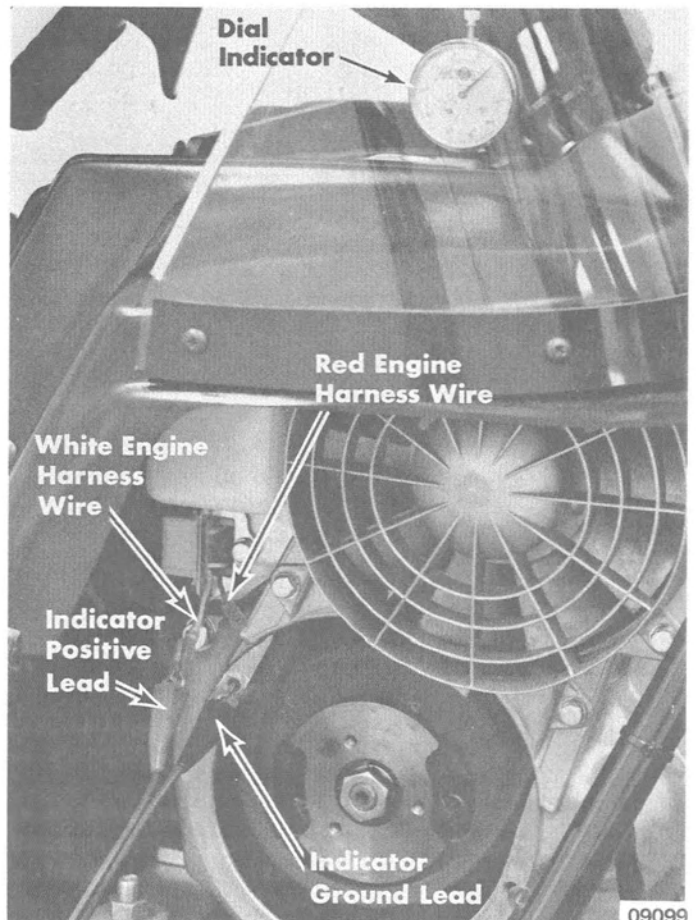

Figure 4. Timing Adjustment
6. Connect suitable meter, buzzer or light to engine ground and white engine harness wire which was disconnected from No. 1 (white) secondary ignition coil wire. (Figure 4)
11. Connect suitable meter, buzzer or light to engine ground and red engine harness wire which was disconnected from No. 2 (red) secondary ignition coil wire. (Figure 4)